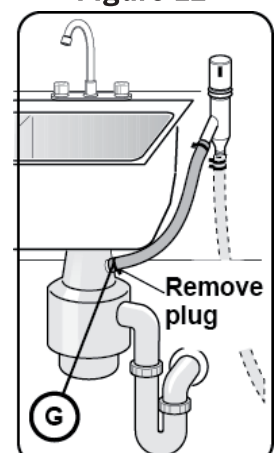

Figure 14
4. To a disposer dishwasher drain connection through an air gap, as shown on **Figure 14**.